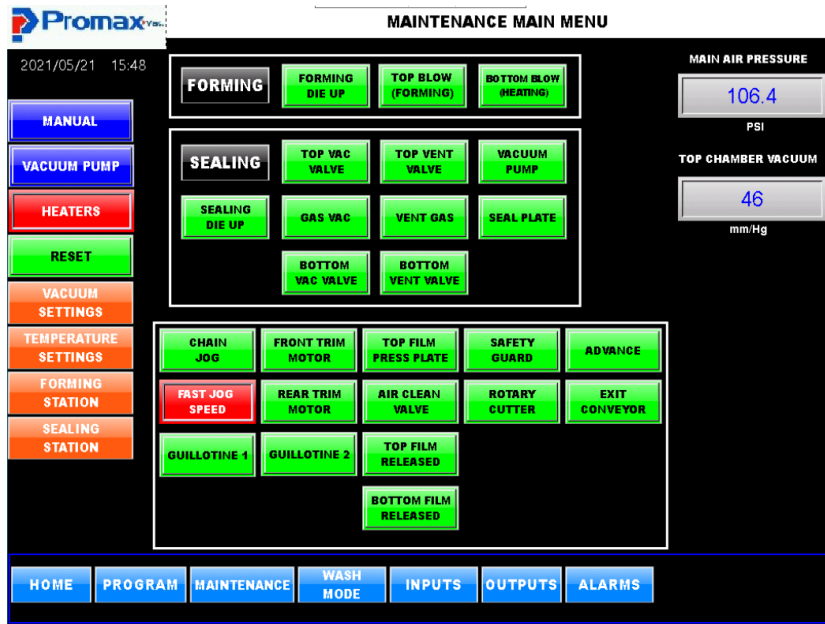

Fig.OP-5.22
-The program screen will appear (Fig. OP-5.22 below).